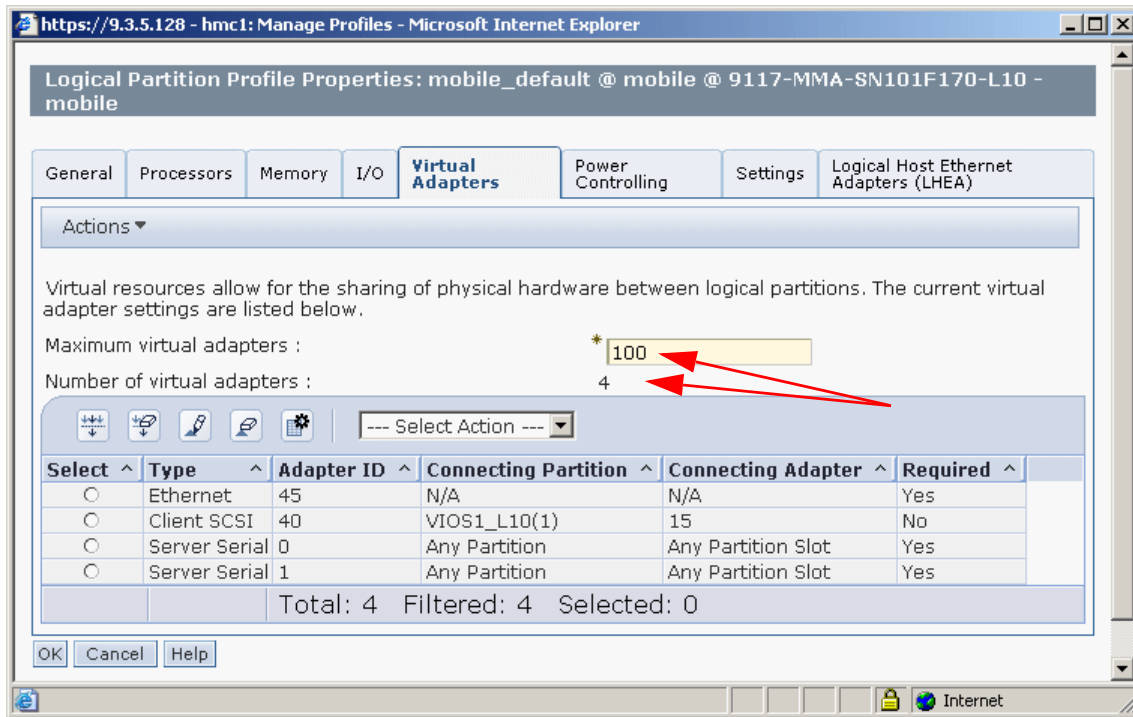

Figure 17-20 Checking free virtual slots
- e. Select the **Virtual Adapters** tab and compare the number of virtual adapters to the maximum virtual adapters. This is shown in Figure 17-20,